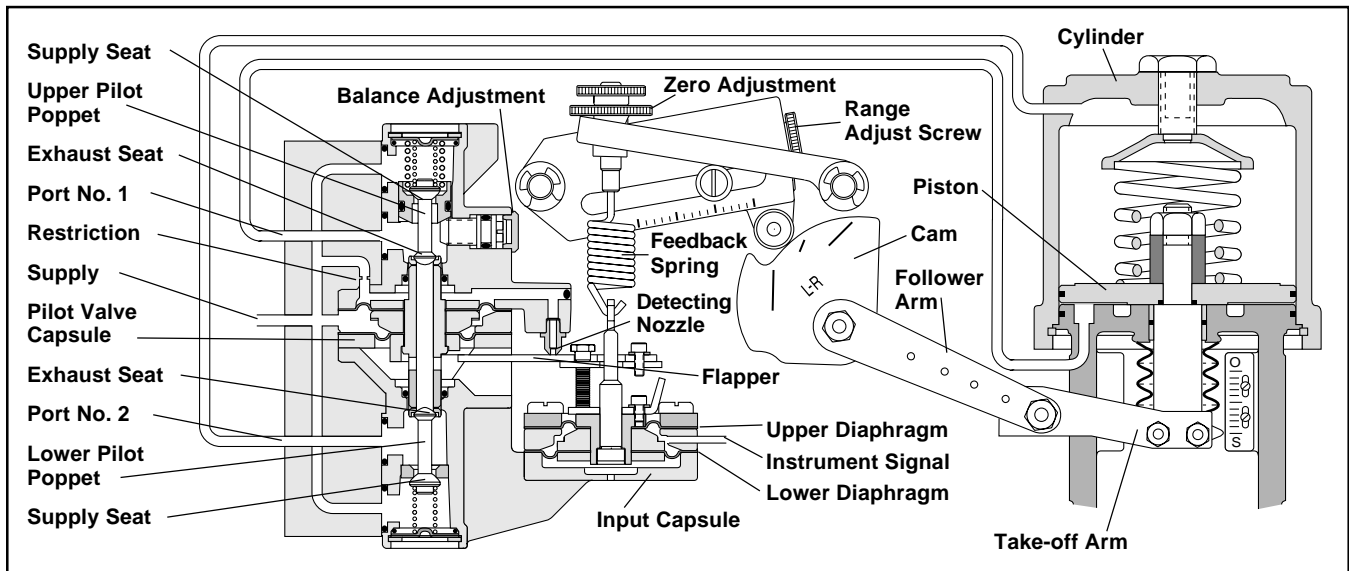

Figure 1: XL Positioner Schematic for Air-to-Open
The positioner schematic (Figure 1) shows an XL Series positioner connected for double-acting service on a linear actuator. Tension on the feedback spring provides feedback to the positioner, which varies as the stem position changes. The spring-loading force is applied through the feedback linkage and cam to the positioner's input capsule.
1. Place the stem clamp onto the actuator stem with the boss on the right side as illustrated in Figure 1.